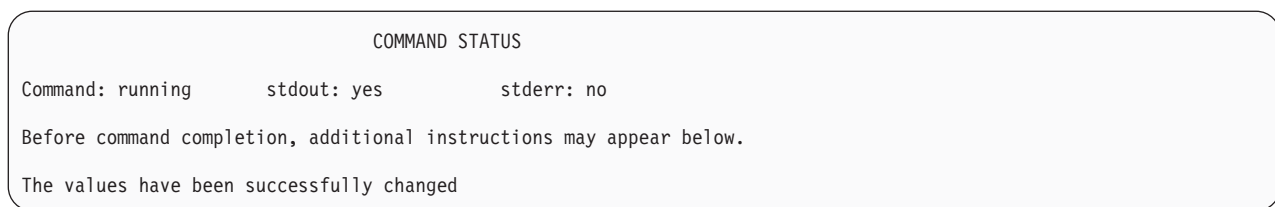

Figure 2-120. COMMAND STATUS Screen – Running
9. The Command Status screen (Figure 2-120) displays for as long as five minutes. It is normal for there to be no response for this period of time. **DO NOT press any keys** while the command is running.